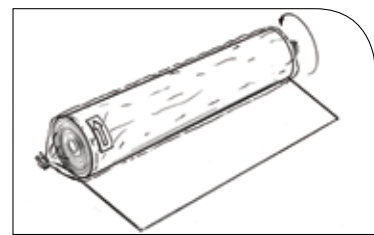

FIGURE 7 Typical BENTOMAT® Installation Technique
5.2 Equipment which could damage the GCL should not be allowed to travel directly on it. Acceptable installation, therefore, may be accomplished such that the GCL is unrolled in front of backwards-moving equipment (Figure 7). If the installation equipment causes rutting of the subgrade, the subgrade must be restored to its originally accepted condition before placement continues.